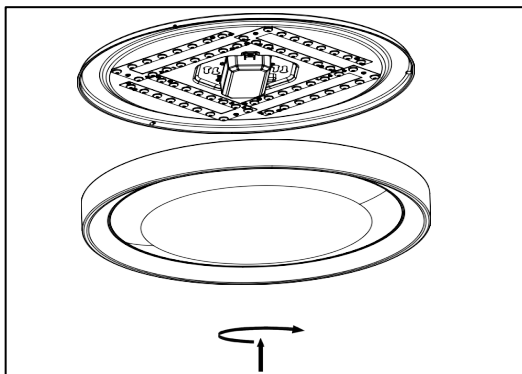

Figure 10
7. Reinstall the diffuser back into the housing assembly by aligning the notches on the diffuser (4) with the pin on the housing assembly (2), then secure it by rotating in the close direction till stop and locked (See Figure 10).